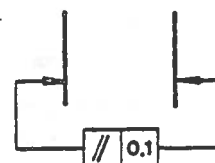

Fig. 19
4.4 If two associated features are identical and there is no reason to give preference to one as a datum feature, then the tolerance is indicated as in Figure 19.